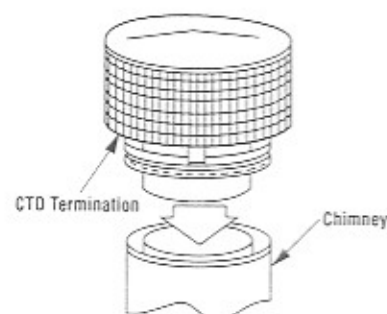

Figure 33
1. Hold CTD over top of last chimney section (Figure 33).